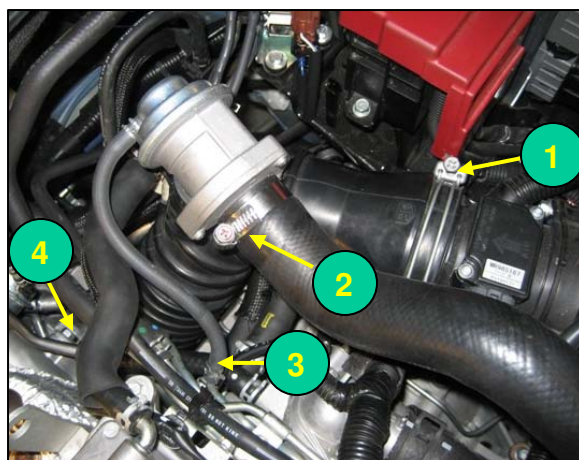

Fig. 6
7. Remove the compressor inlet hose, complete with rubber elbow and bypass valve. To do so, remove all 4 clamps at locations shown in *Fig. 6*. These are: